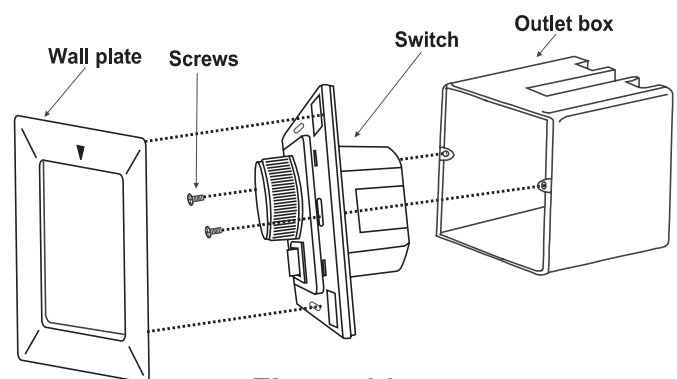

Figure 14
4. Connect, if present, the wall speed control's ground wire directly to one of the screws from the outlet box. (Fig. 14)
5. Attach the wall control to the outlet (wall) box and secure with 2 outlet box screws. (Fig. 14)
6. Push the wall plate to the wall speed control. (Fig. 14)